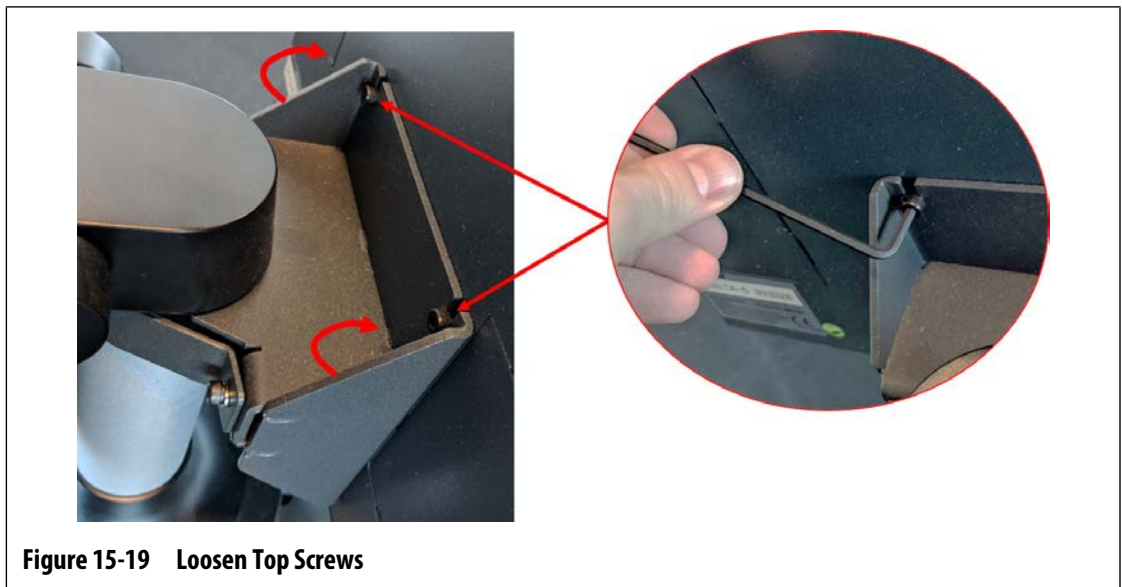

Figure 15-19 Loosen Top Screws
8. Find the two top fasteners that hold the MCU to the mounting bracket and loosen them with a 4 mm right angle Allen key or hex wrench. Refer to Figure 15-19.